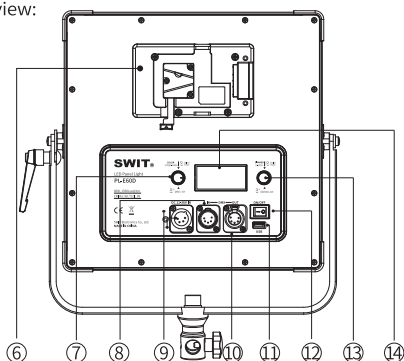
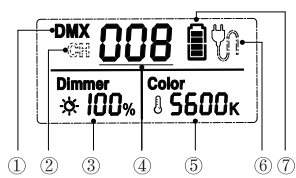

Fig. 6 PL-E60D
Fig. 8 LCD display
The light provides two ways of power supply, by V-mount or Gold mount battery or by 4-pin XLR AC-DC power. Turn on the light (Fig. 6 ⑫) and set the color temperature (Fig.6 ⑬) and brightness (Fig. 6 ⑰) to user's requirements.
The light provides two ways of adjusting the color temperature and brightness: normal adjusting mode and quick adjusting mode. User can switch the adjusting mode by press the dimmer knob and color temperature adjusting knob (Fig.6⑬/⑰). User can quickly set the dimmer and color temperature to their needs by combining two adjusting modes.
Press and hold dimmer knob (Fig.6⑬) for 2s to enter communication address setting interface, the address setting range is 001 to 512.
LCD digital tube (Fig.8 ④) flashing means the current address is selected, rotate the brightness adjusting knob (Fig.6⑬) to set the current address, press the brightness adjusting knob (Fig.6⑬) to confirm, when finish the last setting, press the brightness adjusting knob (Fig.6⑬) or wait for about 5s to quit.
Connect the lights network through using DMX cable. Press and hold color temperature adjusting knob (Fig.6 ⑰) for around 2 seconds to complete the communication control setting.
The upper left corner of LCD shows "DMX" (Fig.8①) indicating that the communication control mode currently is the DMX communication mode. In this mode, connect the DMX signal output device to the lights network, and set up the communication address to work normally. A light occupies 2 DMX control channels. The current DMX address (N) is brightness control, and the next set address of the current value (N+1) is color temperature control.
The upper left corner of LCD shows "CH" (Fig. 8 ②) indicating that the communication control mode currently is interaction control mode. In this mode, set the target lights to the same communication address to work normally, and the master-slave machine is not distinguished.